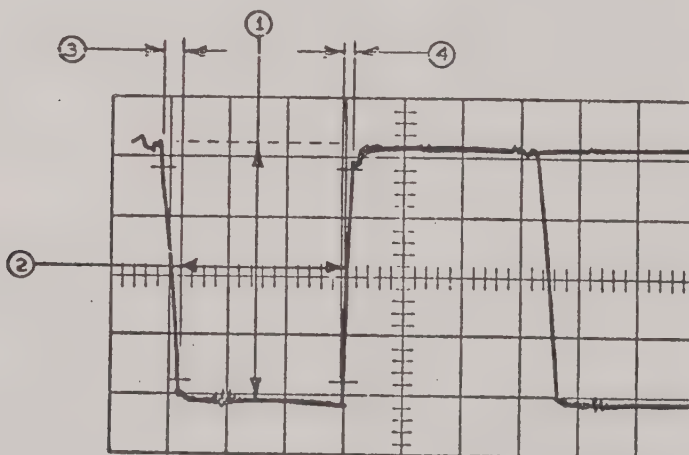

Figure 5-12: Errors
- h. Observe the waveform of Figure 5-12. Measurement 1 should be between 4.5 and 5.5 cm (4.5 and 5.5 volts). Measurement 2 should be between 3.0 and 3.5 cm (300 and 350 nsec). Measurement 3 and 4, taken at the 10% and 90% points, should be less than 0.5 cm (50 nsec).
- i. Using the 100 ohms, 1% resistor whose ends are wired to alligator clips, fasten the resistor between the BNC connector and the GRD terminal. Measurement 1 of Figure 5-12 should now be not less than one half of Measurement 1 taken in the previous step.